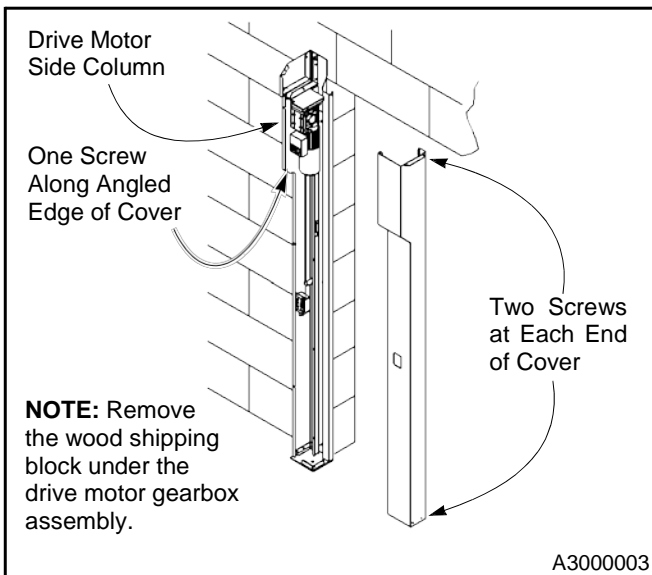

Figure 12
2. Remove the cover from the side column. It is held in place by two screws at each end and one screw along the angled edge. (See Figure 12.)